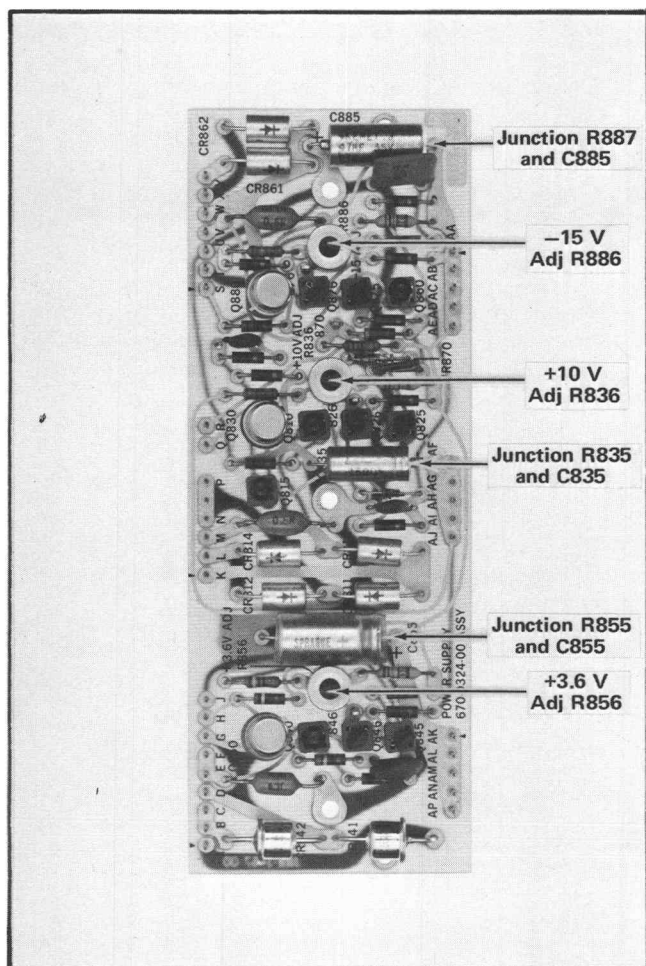

Fig. 5-2. Power Supply board test point and adjustment locations.
b. Connect the common lead of the voltmeter to a convenient chassis ground point on the Type 142. Then, connect the positive lead to the junction of R887 and C885 (−15 volts) on the Power Supply board (see Fig. 5-2).
n. From the Type 1A5 B Input connector, connect a 1X probe to the junction of R887 and C885 (–15 V) on the Type 142 Power Supply board; see Fig. 5-2.